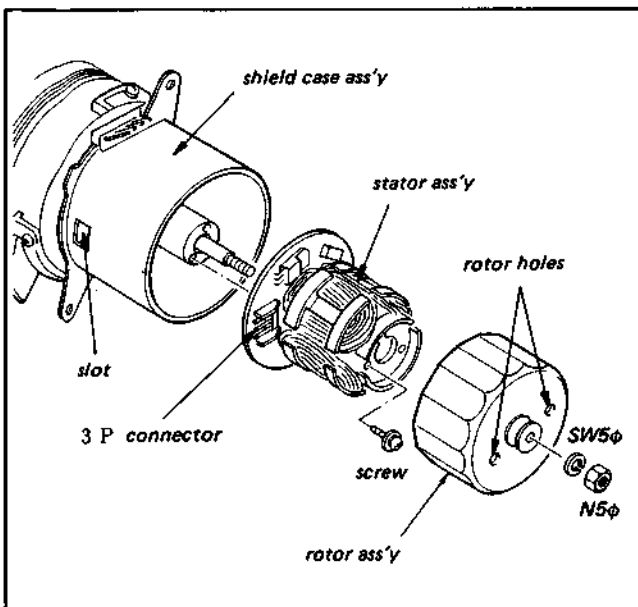

Fig. 3-5. Replacement of drum assembly (3)
4. Loosen the rotor assembly by inserting a long-nose pliers or a screwdriver into the two rotor holes shown in Fig. 3-5 and removing the $N5\phi$ nut and $SWS\phi$ washer. Pull off the rotor assembly.
5. Remove the screw mounting the stator assembly (shown in Fig. 3-5) and pull off the stator assembly.